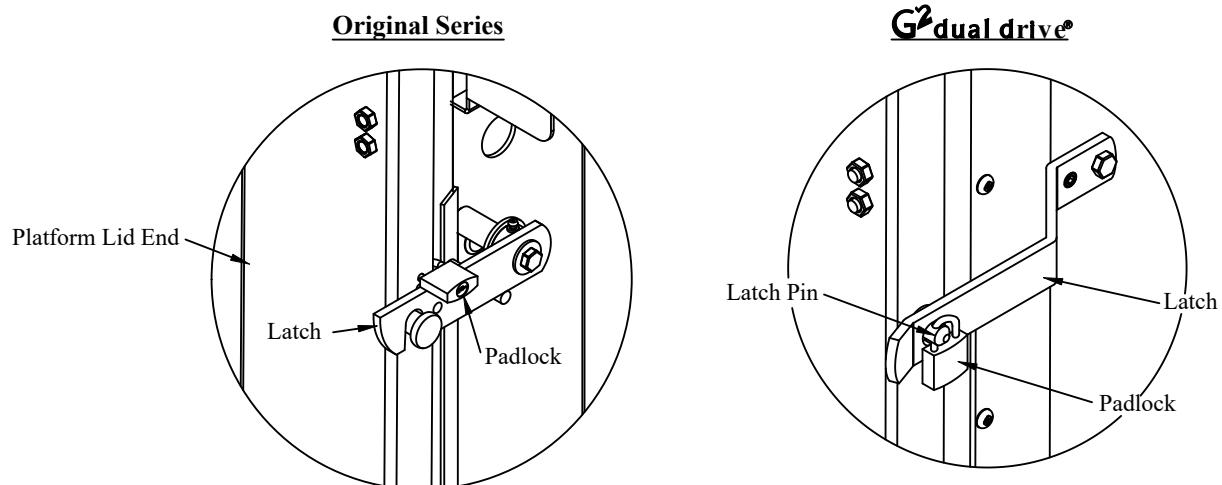

Figure 15: Padlock location.
9. **Lock** the padlock through the hole in the platform or latch pin (Figure 15).